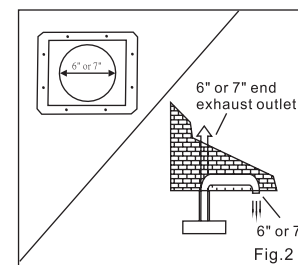

Fig.2
2. Take the mounting templet and check centerline then mark on the ceiling to position the mounting templet and mark the size of exhaust duct, make sure the end of exhaust outlet on the wall or roof is 6" or 7". (Fig.2)